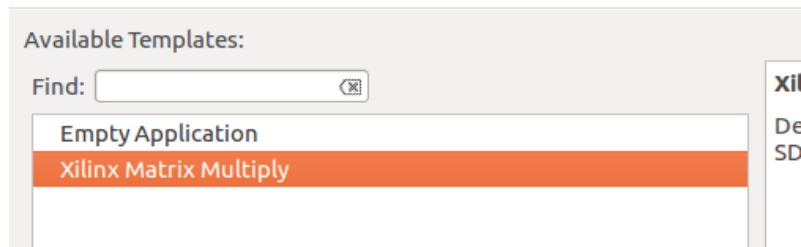

Figure 20 – Example Selection
20. Select the provided Xilinx Matrix Multiply example as shown in Figure 20.